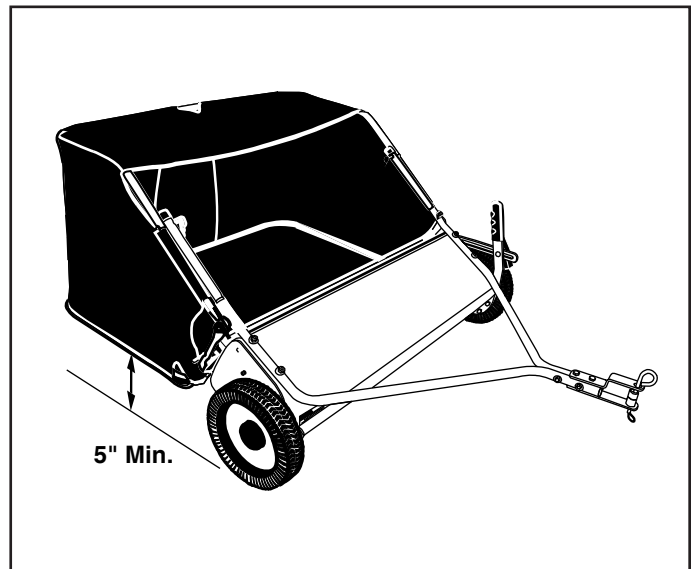

FIGURE 21
## STEP 16: (SEE FIGURE 21, 22 AND 23)
**IMPORTANT:** For best performance, the bottom of the sweeper bag should be approximately level and 5" to 7" off the ground as shown in figure 21.